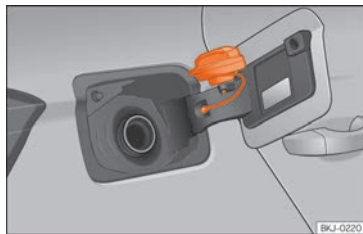

Fig. 157 Fuel tank flap with tank cap attached.
- Place it in the space on the hinge of the open flap >>> **Fig. 157**.